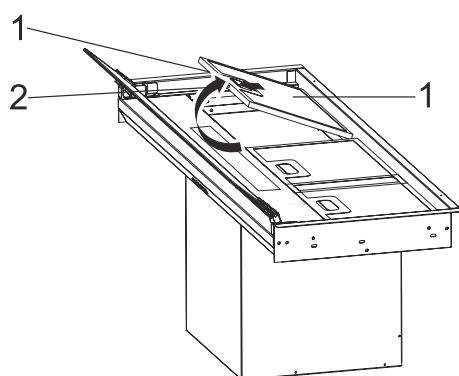

Fig. 11
1. → Remove the appliance package and place the aluminium filters facing upwards. (Fig. 11).
Press the aluminium filter latch (/1) and pull upwards (Fig. 11/2) to remove.